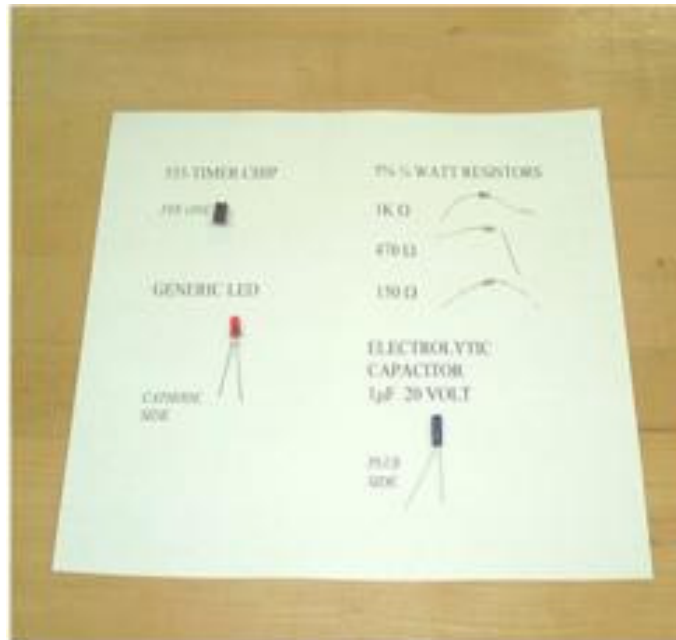

Figure 17.1: Organize your components.
2. **Organize your components before building your circuit.** Create a sheet with labels for identifying and arranging components, as is shown in Figure 17.1. You will be able to build your circuit a lot faster if you have your components identified and laid out ahead of time.